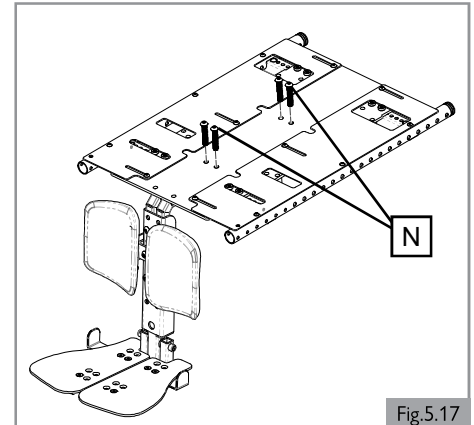
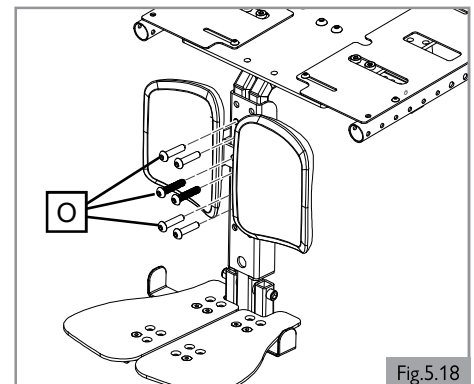
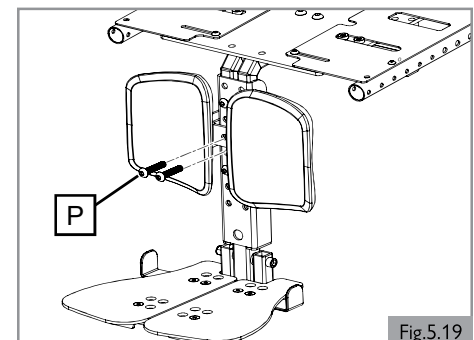

Fig.5.17
Fig.5.18
Fig.5.19
1. Removing the assembly (Fig 5.17)
- a. Remove the four screws (N) and slide the footrest assembly out of the receiver.
2. Footplate height adjustment (Fig 5.18)
- a. Remove the six securing screws (O).
- c. Attach again screws (O) through adjusted holes and tighten the hardware.
3. Calf pad adjustment (Fig 5.19)
- a. Remove the two securing screws (P).
- c. Attach again screws (P) through adjusted holes.